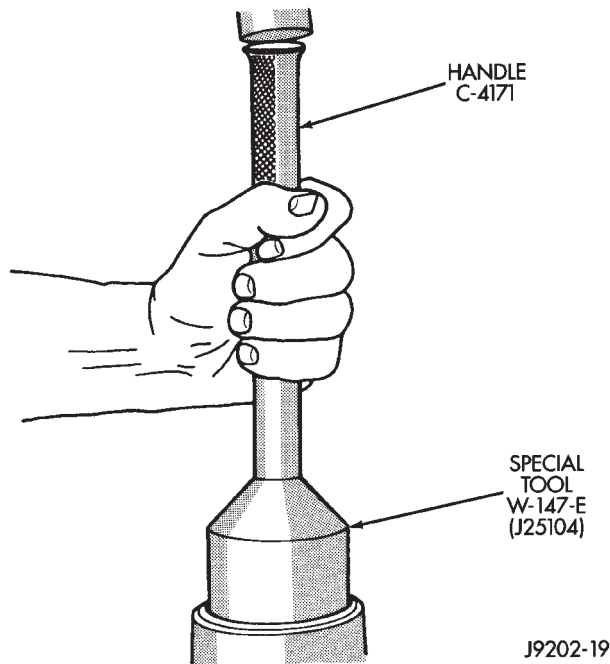

Fig. 29 Pinion Seal Installation
- (5) Install pinion front bearing, oil slinger. Apply a light coating of gear lubricant on the lip of pinion seal. Install seal with Installer W-147-E and Handle C-4171 (Fig. 29).